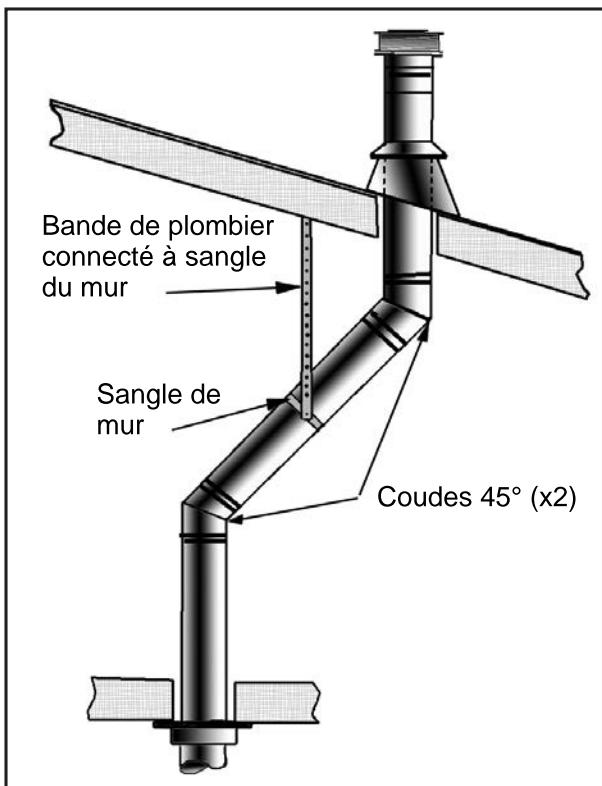
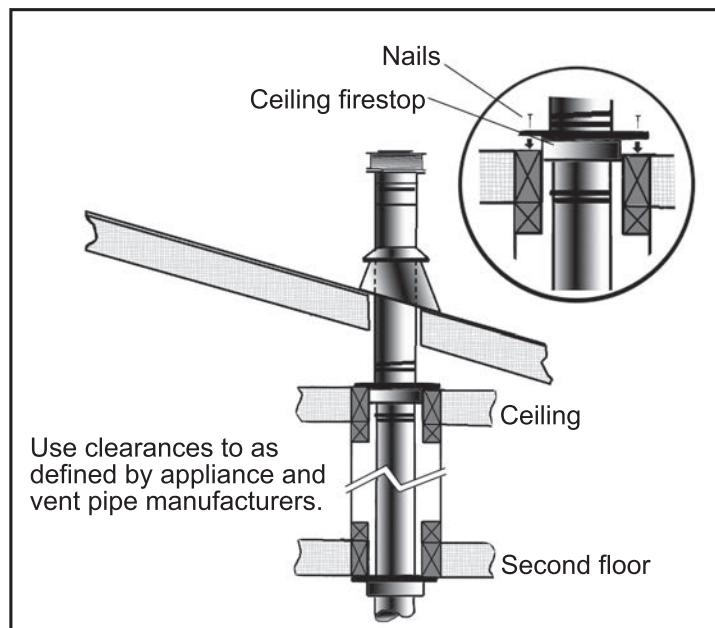

Figure 29: Use of Wall Straps.
Figure 30: Multi-Story Vent Pipe Installation
(1) If an offset is necessary in the attic to avoid obstructions, it is important to support the vent pipe every 3' (914 mm), to avoid excessive stress on the elbows, and possible separation. Wall straps are available for this purpose (see Figure 29).
(2) When ever possible, use 45° degree elbows instead of 90° degree elbows. The 45° degree elbow offers less restriction to the flow of flue gases and intake air.
(3) For multi story installations; a ceiling firestop is required at the second floor, and any subsequent floors (see Figure 30). The opening should be framed to **10" (254 mm) x 10" (254 mm)** inside dimensions, in the same manner as shown in Figure 21.
The pressure taps are located on the top right of the valve shown in Figure 30.